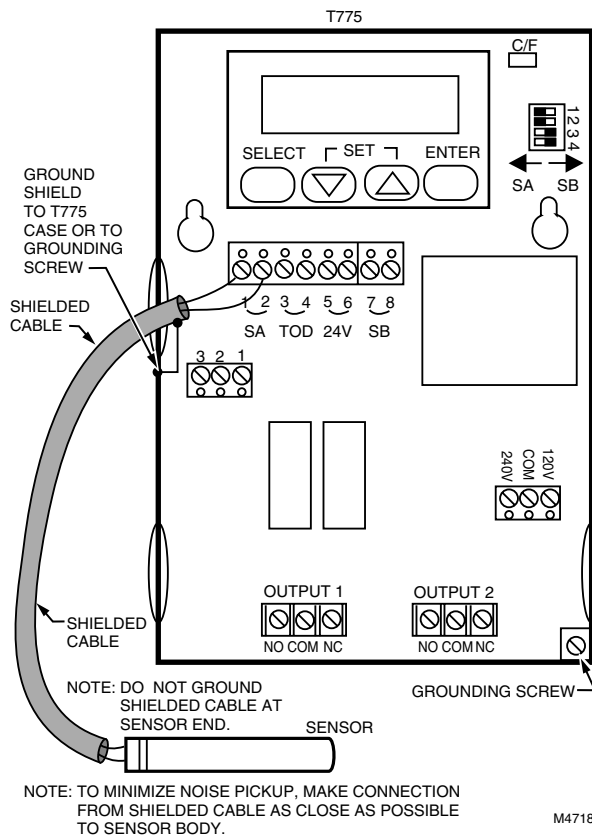

Fig. 6. Using shielded cable for cable runs longer than 25 feet.
- g. Use shielded wiring to connect the sensor to the T775 when an electrically noisy environment exists. See Fig. 6.